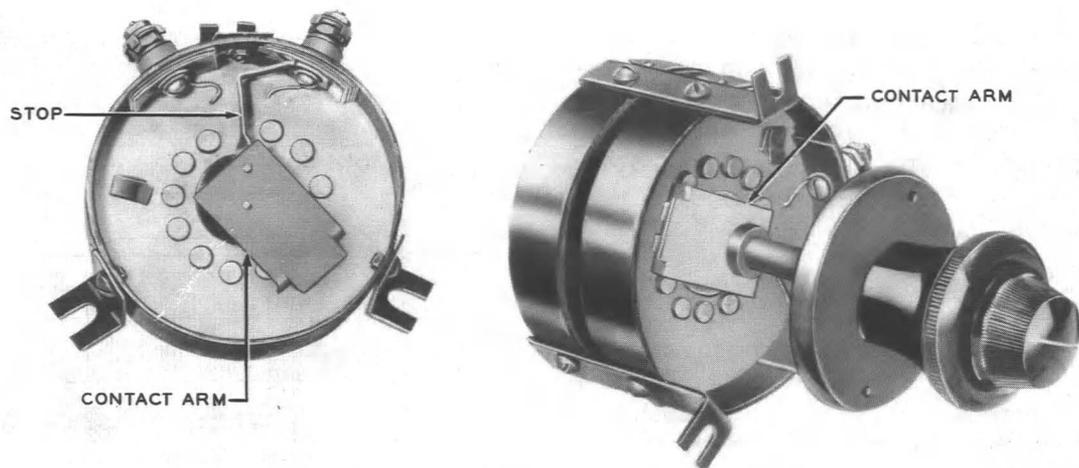

Fig. 5 - 4-inch Rheostat — Bent Phosphor-bronze Ribbon Contact Arm Construction
1.10 Bent Phosphor-Bronze Ribbon Contact Arm Construction: Rheostats having this type of contact arm are shown in Fig. 5 and 6. In